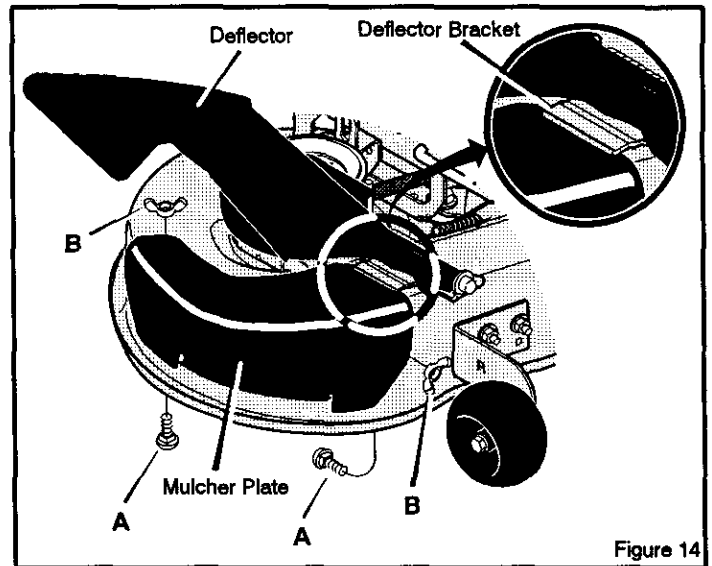

Figure 14
1. Raise the deflector. Remove the two wingnuts **B** and two carriage bolts **A** (Figure 14).
2. Slide the top of the mulcher plate under the deflector bracket (Figure 14).